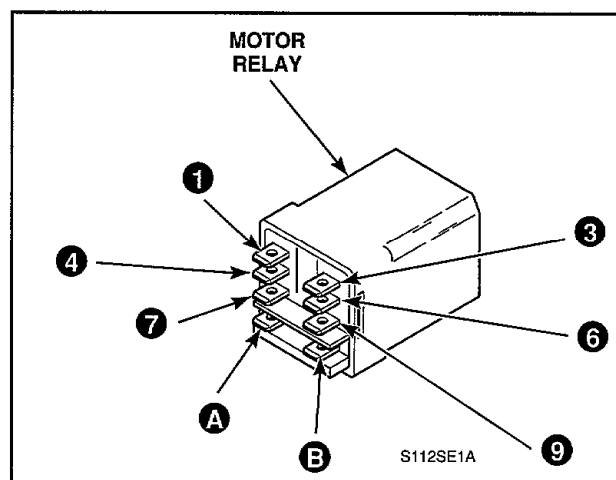

Figure 57
45. MOTOR RELAY (Refer to Figure 57)